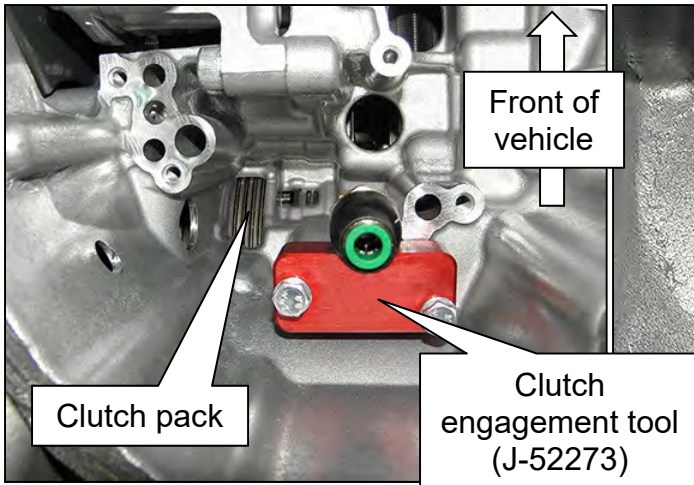
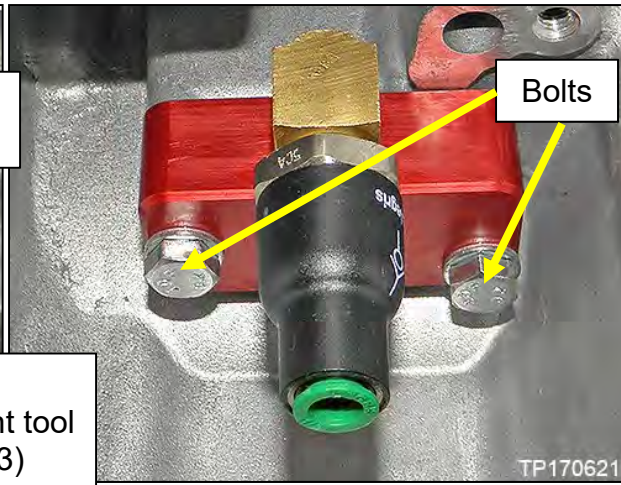

Figure 29
Figure 30
- a. Install the Clutch Engagement Tool (J-52273) to the CVT case with two bolts finger tight where shown in Figure 29 and Figure 30.